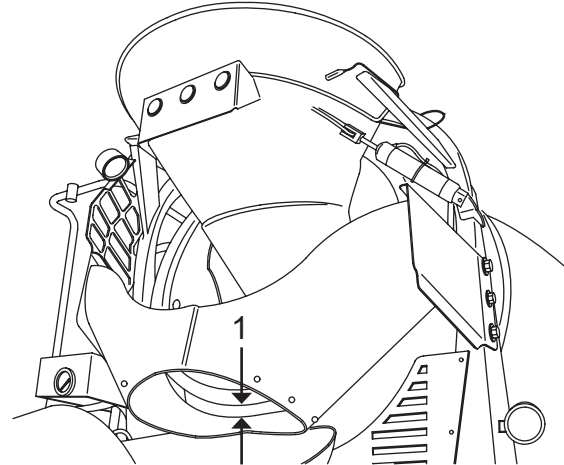

Figure 146
5. Check the discharge hopper-to-drip ring clearance (Figure 146, Item 1). Clearance should be 2 inches (51 mm) between the discharge hopper face and the drip ring, and no more than 1 inch (25 mm) radially around the drip ring.